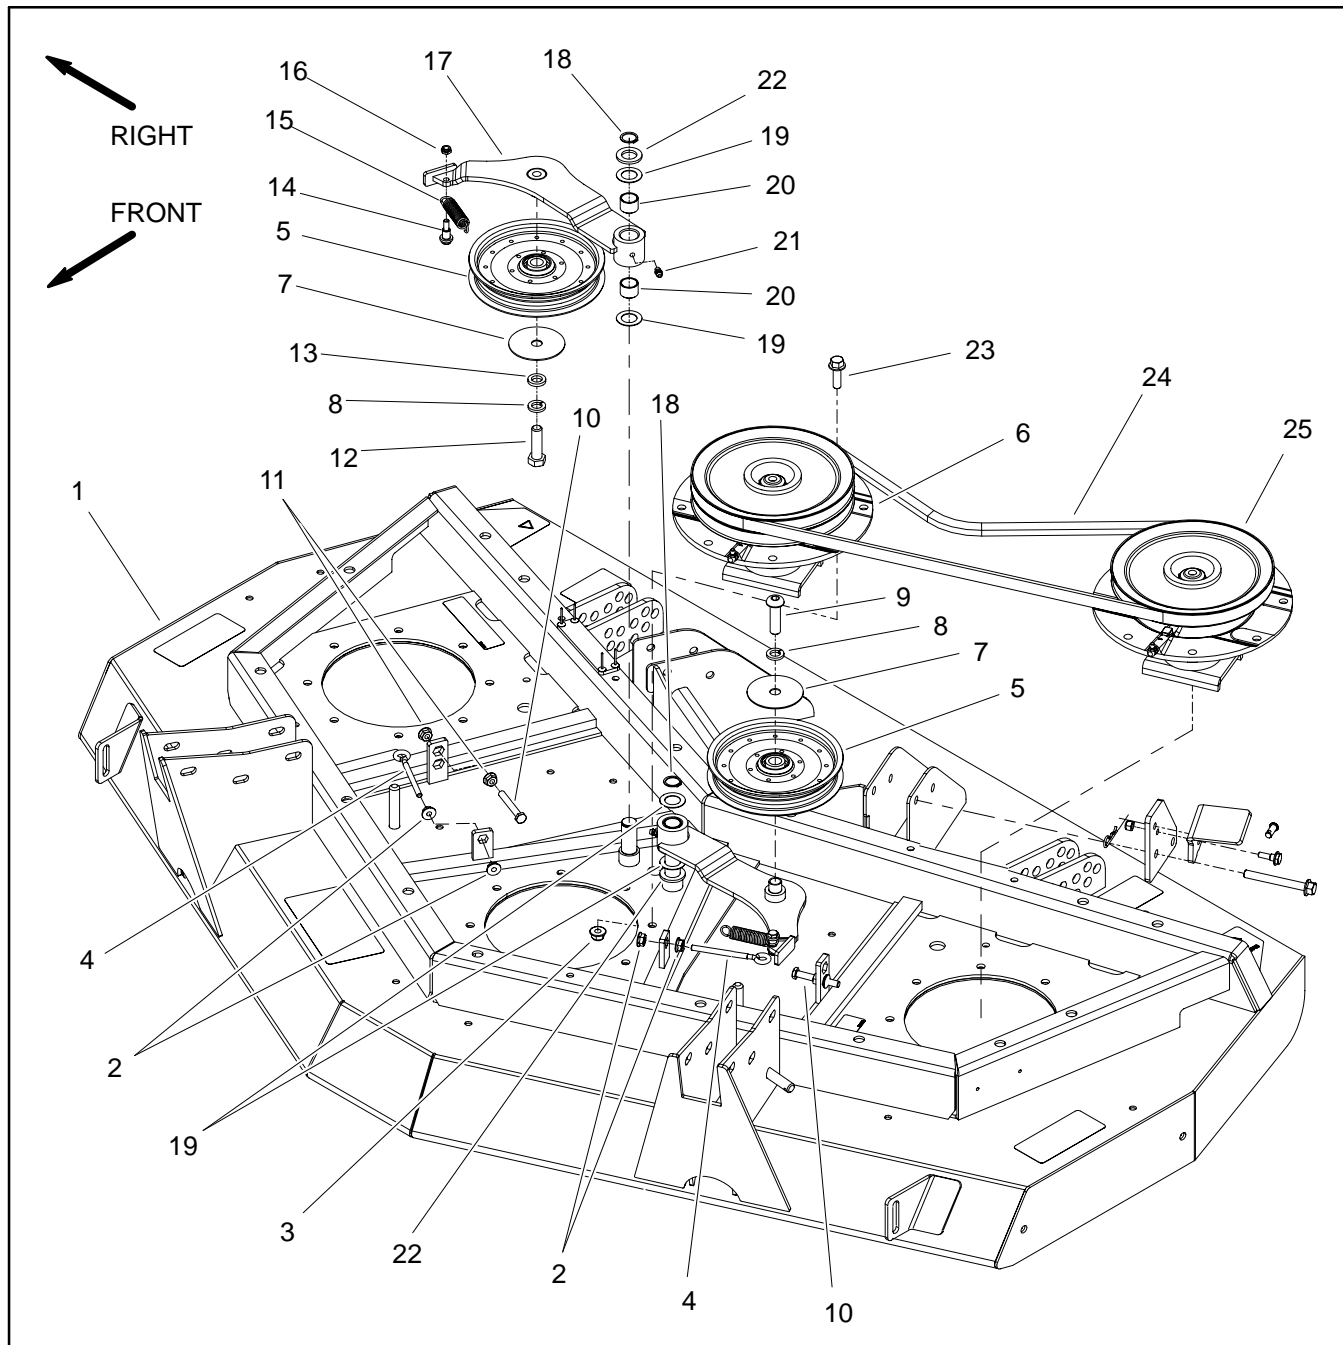
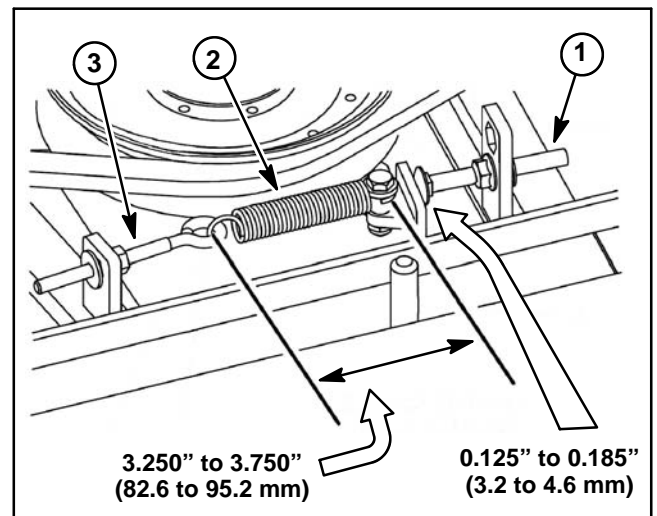

Figure 9
Figure 10
**NOTE:** The front deck is shown in Figure 9. The idler assemblies used on the wing decks use the same idler components.
## Removal (Fig. 9)
3. Use spring hook tool to unhook the idler spring (item 15) from the adjusting screw (item 4).
5. Loosen flange nuts (item 11) that secure idler stop bolt (item 10) to cutting deck to allow clearance between idler arm and stop bolt.
6. Remove idler components as needed using Figure 9 as a guide. Note location of washers, idler spacer and screw as idler assemblies are being removed.
## Installation (Fig. 9)
1. Install removed idler components using Figure 9 as a guide.
- A. Make sure that one (1) thrust washer (item 19) is placed above and below the idler arm. Location of additional washer (item 22) depends on whether the idler pulley mounts on the bottom side of the idler arm or on the top of the idler arm.
- C. If idler stop bolt (item 10) was removed from deck, make sure that it is installed in the hole that allows the stop bolt head to align with the idler arm.
3. Use spring hook tool to attach the idler spring (item 15) onto the adjusting screw (item 4) and shoulder bolt on idler arm.
4. With the idler arm tensioning the drive belt, the idler spring hook to hook length should be from 3.250" to 3.750" (82.6 to 95.2 mm) (Fig. 10). If necessary, disconnect spring and change position of adjusting screw. When idler spring is the correct length, tighten second flange nut to secure idler adjustment.
5. Adjust location of idler stop bolt so that the clearance between idler arm and idler stop bolt head is from 0.125" to 0.185" (3.2 to 4.6 mm) (Fig. 10).